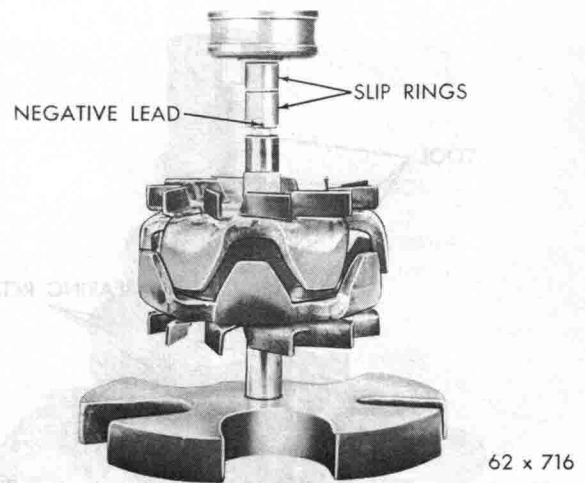

Fig. 51—Pressing Slip Rings on Rotor Sleeve
(6) Carefully press the new slip ring assembly on the rotor sleeve to within  $\frac{1}{8}$  inch of the rotor shaft (Fig. 51).